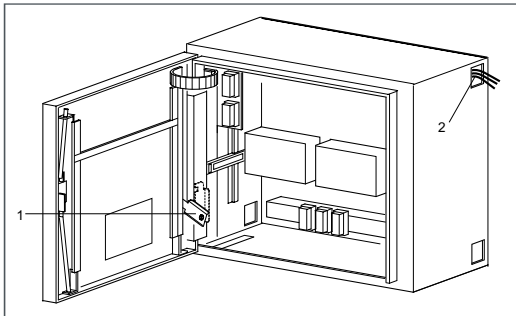

Fig. 7.1
- The door can be secured optionally in open position using a lock plate (Fig. 7.1, 1).
- Route the ring circuits for the intra-panel wiring through the lateral openings of the low-voltage compartment (Fig. 7.1, 2).